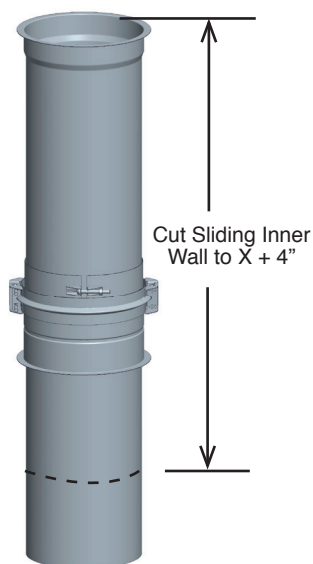

Figure 24a - Step 2 - Cut of the Sliding Inner Wall
2. Cut the inner wall at the dimension X found at the first Step + 4". See Figure 24a.